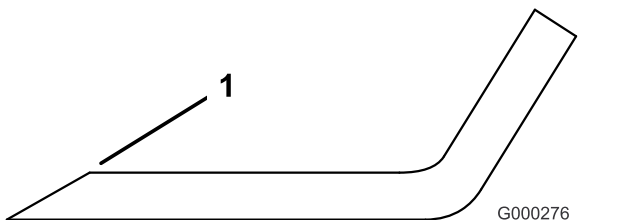

Figure 92
3. Examine the cutting edges of all of the blades and sharpen the cutting edges if they are dull or nicked (Figure 92).
Note: Sharpen only the top of the cutting edge and maintain the original cutting angle to ensure sharpness (Figure 92). The blade remains balanced if the same amount of metal is removed from both cutting edges.